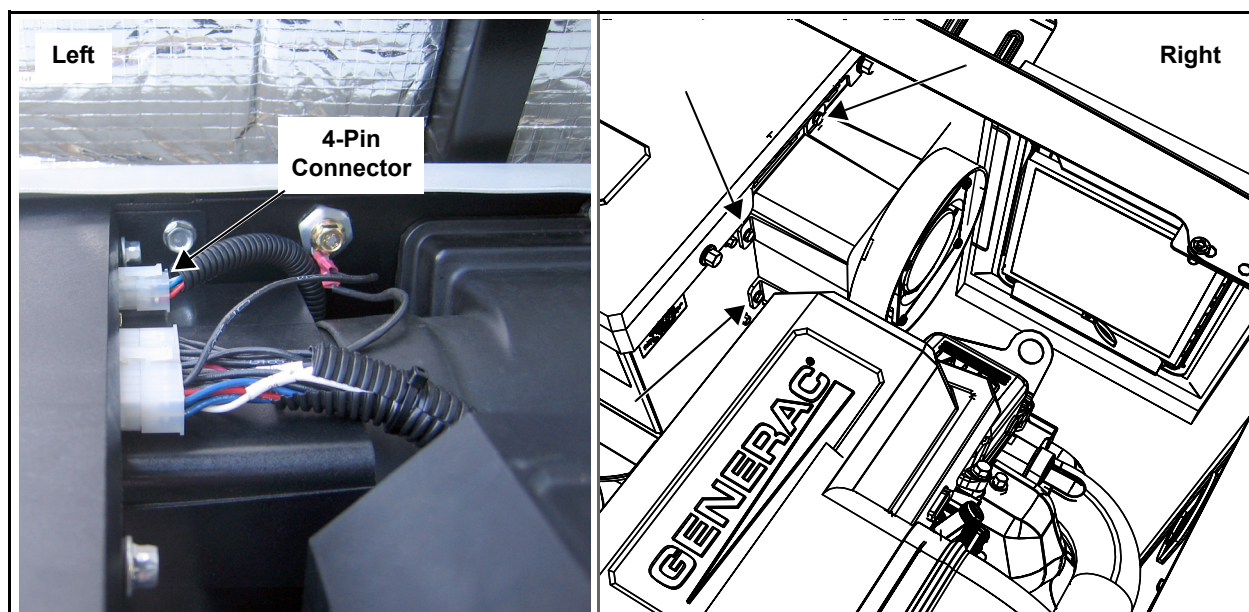

Figure 4-6. Remove AVR Fan Connector and Screws
4. Remove three screws to release AVR fan from AVR. See Figure 4-6.